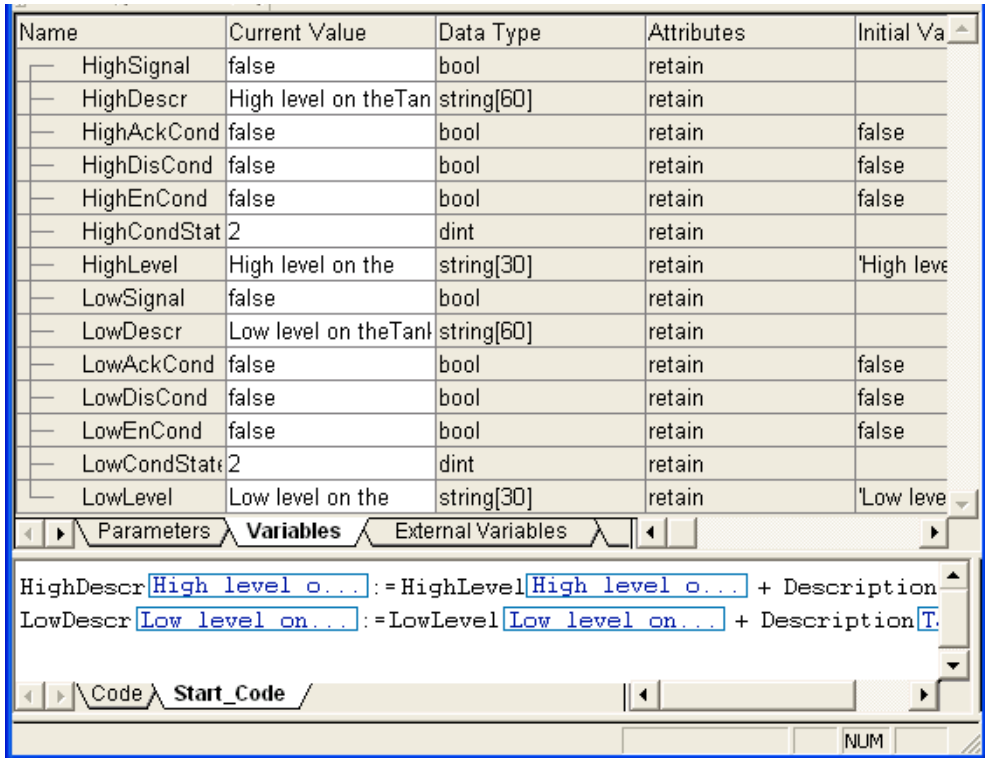

Figure 126. Part of Online editor for Tank11.
- Under Applications, alarmsimple_m, and Control Modules, double-click Tank11 or Tank12. The corresponding online editor is displayed (Figure 126).